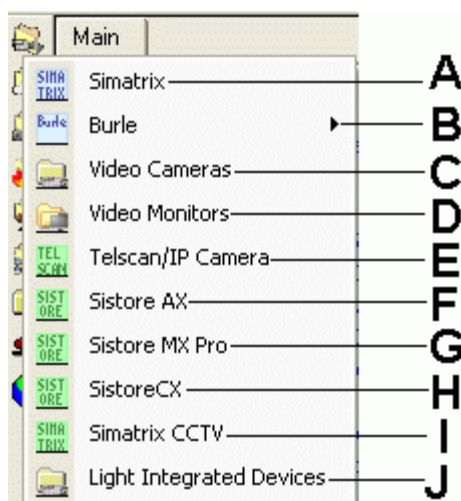

Fig 4 CCTV components menu
The following Fig 4 illustrates the menu options and the corresponding CCTV components.
2. In the menu that appears, select the Camera folder icon  to add a folder (→ Fig 4 at p.9).